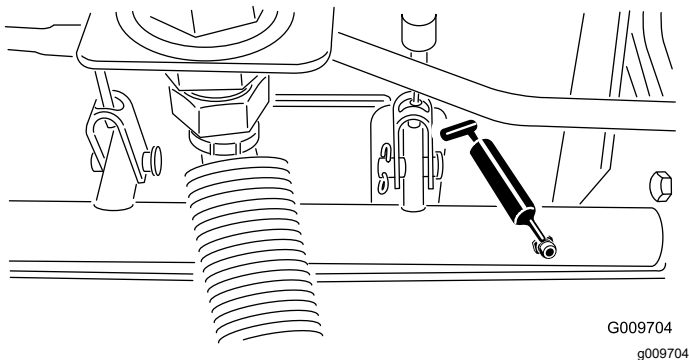

Figure 56
- Brake shaft pivot bearings (5), refer to Figure 56